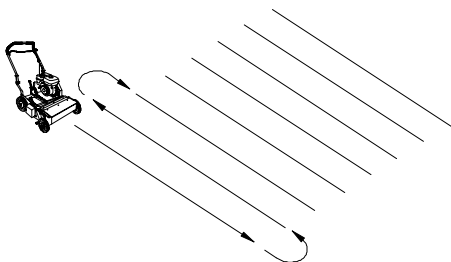

Fig. 1
**SLICING / OVERSEEDING:** Mow the lawn to shorter than the normal cut height before starting (i.e. approximately 2" tall for fescue grass). For the best result, Slice/Overseed in criss cross pattern (See Fig. 1 and See Fig 2).